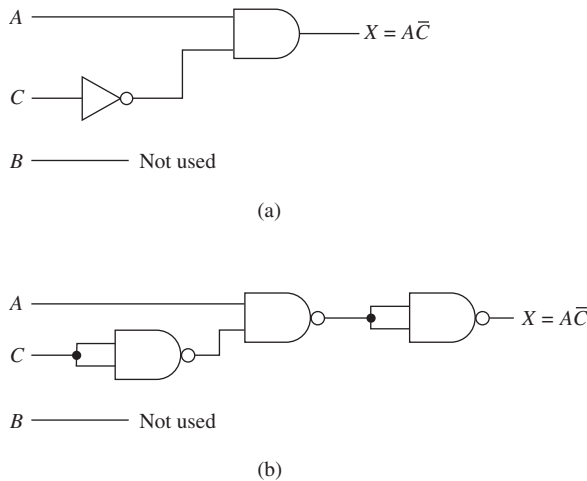

Figure 5-79 (a) Logic circuit that yields the waveform at X ; (b) circuit of part (a) redrawn using only NANDs.
- The logic circuit is shown in Figure 5-79(a).
- Redrawing the same circuit using only NANDs produces the circuit shown in Figure 5-79(b).